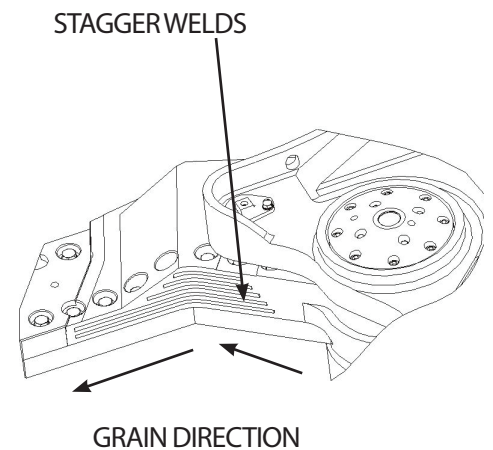

FIGURE 5-25
4. To hardsurface the area alongside the upper blades, establish the pattern with three or four passes of build-up. These beads should run parallel to the blades from behind the Saber Tip to approximately the midpoint of the primary blade (see Figure 5-25).